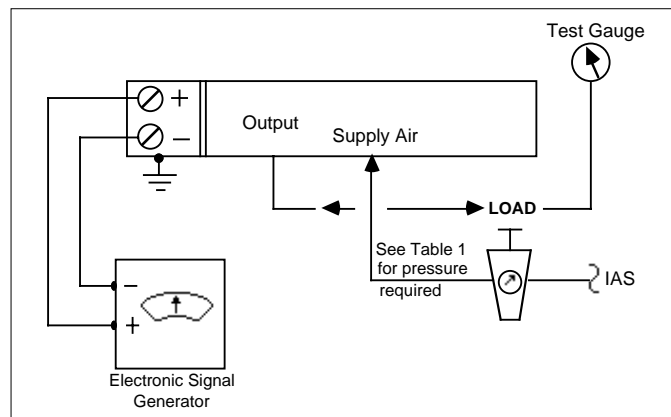

Figure 20
3. If adjustments are made with the positioner mounted on the control valve, the feedback lever (13) on the main shaft (17) of the positioner must be loosened. (See Section III:8-9.)
- a. Set the changeover plate (15) to "N".
- b. Turn the throttling screw (42) CW to its stops (maximum GAIN).
- c. Unhook the range spring (41) from the flapper lever (38).
- d. Check that the flappers (52) are aligned concentrically with the nozzles (51). (If necessary, loosen the AMPLIFIER mounting screws on the rear of the positioner and align the amplifier (53) sub-assembly accordingly.)
- e. Press the flapper lever (38) several times alternately to the left and right, so that the ball-and-socket mounted flappers (52) are aligned parallel to the nozzles (51).
- f. Press the flapper lever (38) to the left. Set the clearance between the nozzle (51) and the flapper (52) to 0.6 mm (0.024 in.) with the aid of a feeler gauge by turning the hexagonal adjustor (56) with a 6 mm wrench. Then secure the nut against further turning using sealing paint.
- g. Connect the positioner as shown in the test circuit in Figure 20. Provide an "IAS" per Table 1.